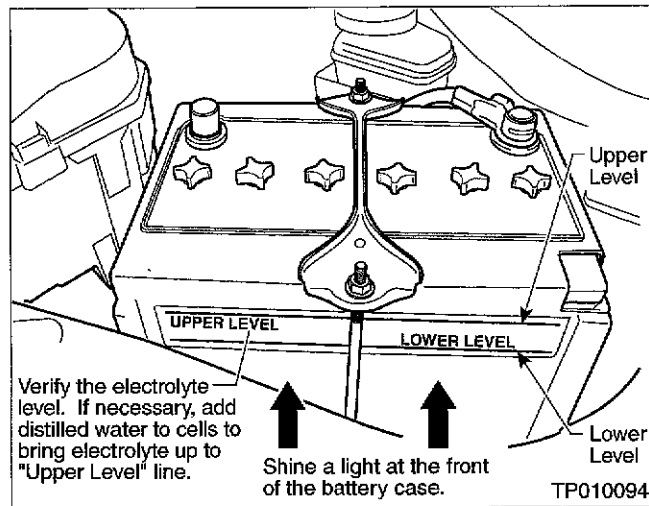

Figure 2
- 1) Shine a light at the front of the battery case and determine the electrolyte level mark on the face of the battery case (see Figure 2).
- 2) Verify that the electrolyte level is up to the "Upper Level" mark (see Figure 2).